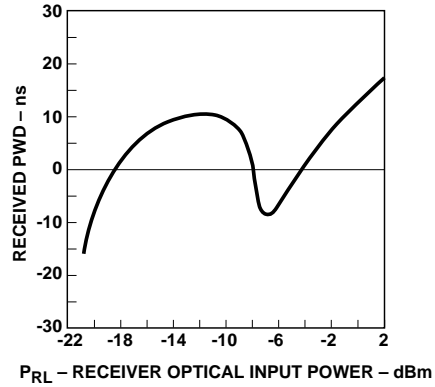

Figure 2. Typical POF Receiver Pulse Width Distortion vs. Optical Power at 10 MBd.
- Receiver overdrive ($P_{RL,max}$) is specified as the limit where |PWD| will not exceed 30 ns. The receiver will be in the correct state (logic “0”) for optical powers above $P_{RL,max}$. However, it may not meet a 30% symbol period PWD if the overdrive limit is exceeded. Refer to Figure 2 for PWD performance at high received optical powers.